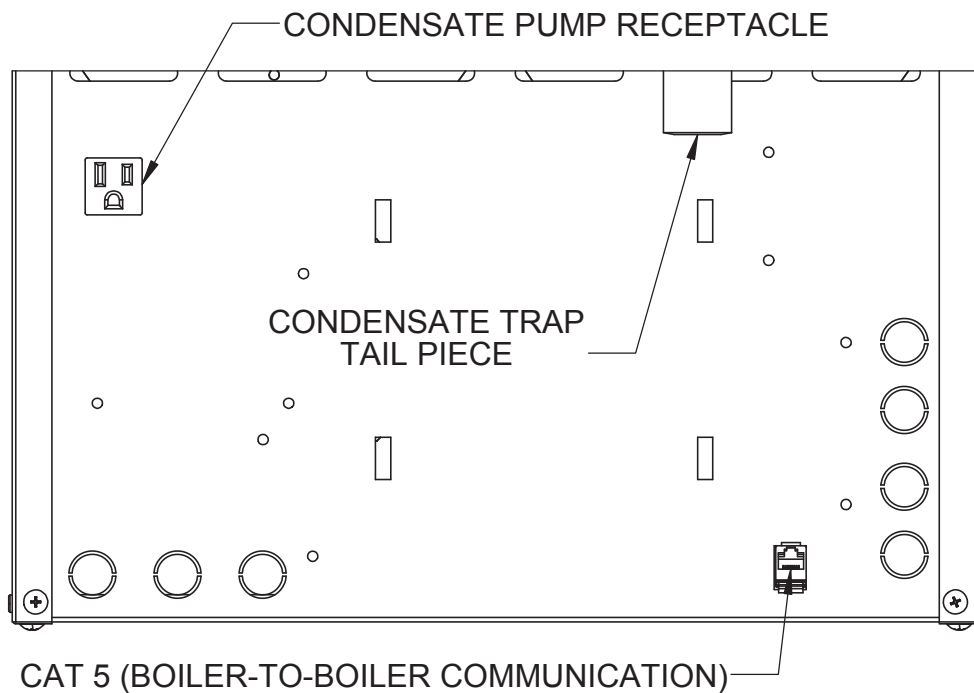

Figure 10.2: Condensate Pump Receptical
2. Condensate Pump Receptacle - A 120VAC receptacle is located near the condensate trap (Figure 10.2) and is for use with a flue gas condensate pump.